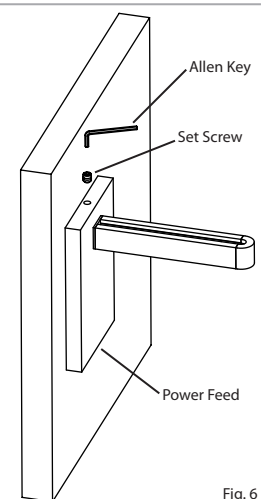

Fig. 6
17. Attach **Power Feed** to mounting bracket. Secure using **Set Screw** and included **Allen key** (Fig. 6).